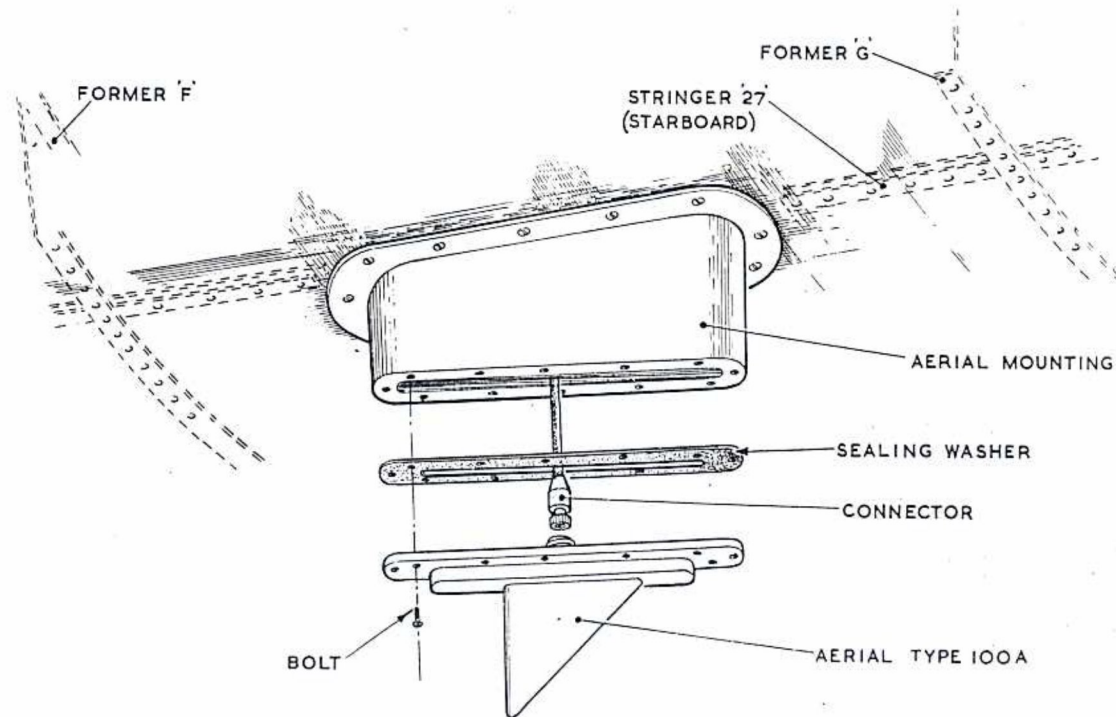

Fig.2 Assembly of aerial
24. When removing or refitting the aerial reference to fig.2 should be made.